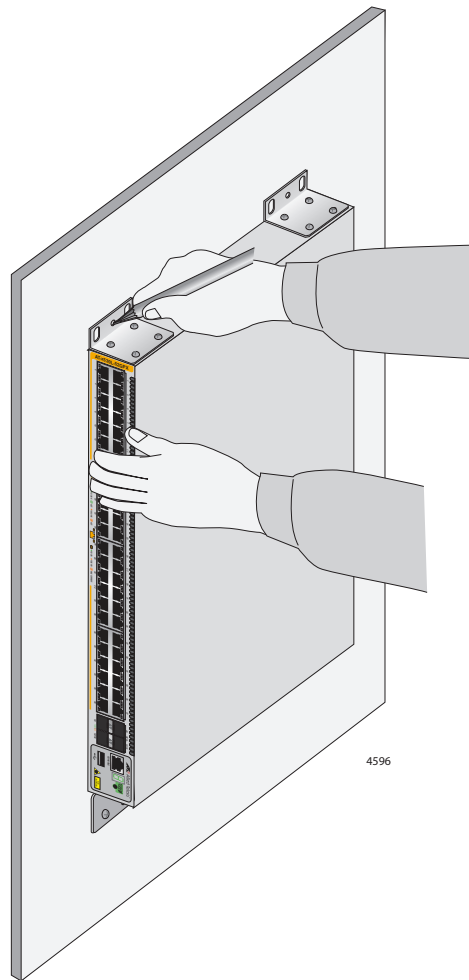

Figure 58. Marking the Locations of the Bracket Holes on a Concrete Wall
3. After attaching the brackets, have another person hold the switch on the concrete wall at the selected location for the device while you use a pencil or pen to mark the wall with the locations of the four screw holes in the four brackets (one screw per bracket). Refer to Figure 58 on page 99.